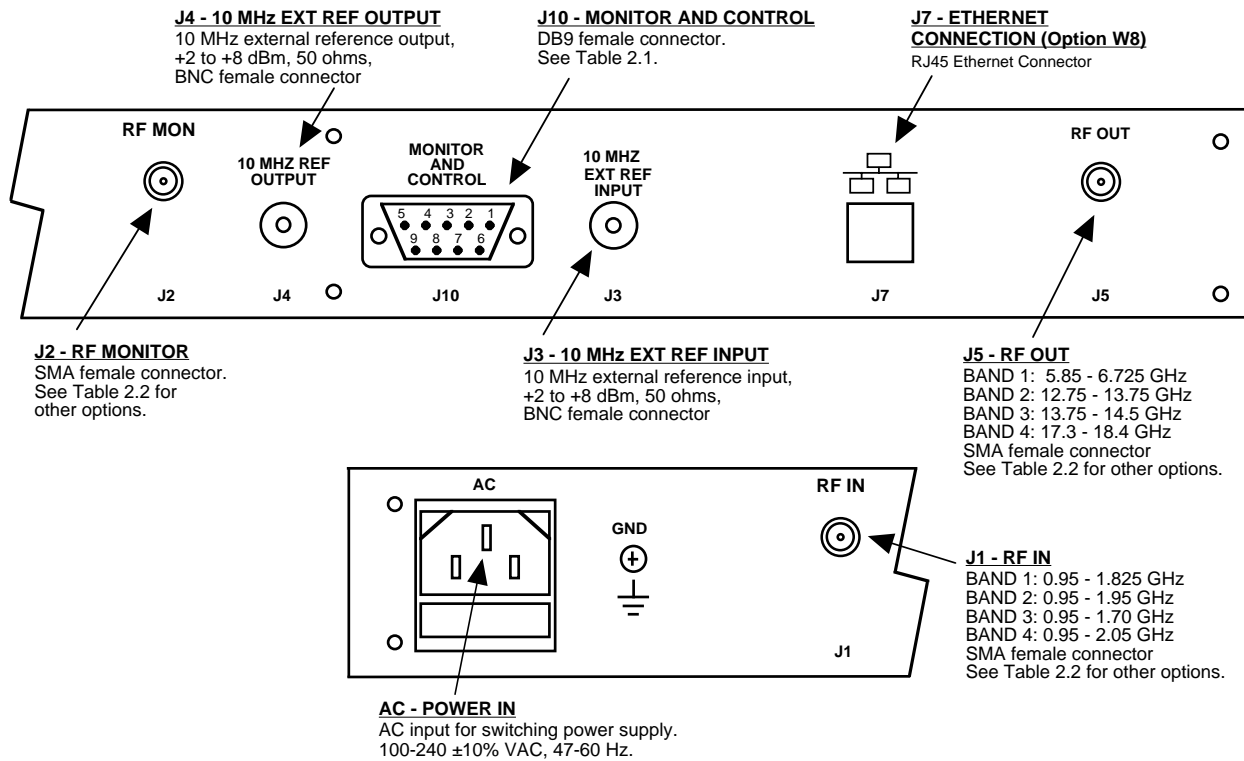

FIGURE 2.2 3115-41-184 W60 Rear Panel Inputs and Outputs
2.2 Rear Panel Input / Output Signals - Figure 2.2 shows the input and output connectors on the rear panel.
1. Connect a -55 dBm to -35 dBm signal to RF-BAND INPUT (J1) Figure 2.2.